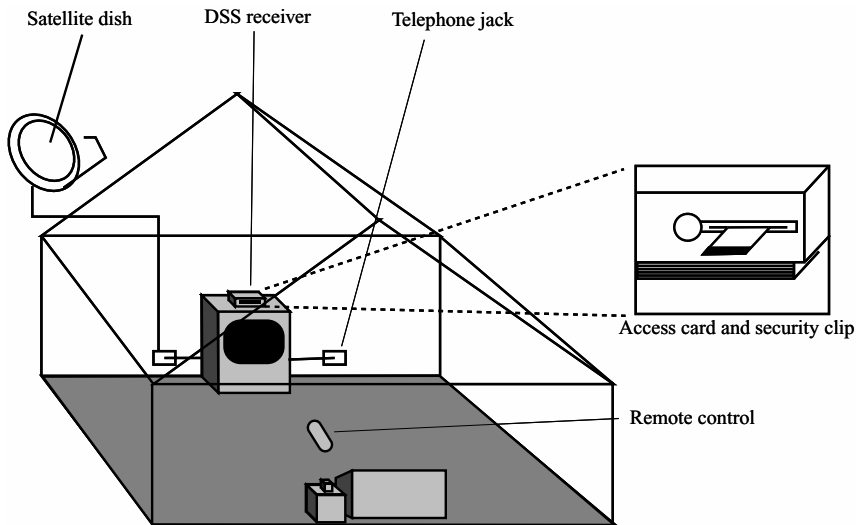

FIGURE 6-21 A typical DBS home installation setup plan. (Courtesy of Thomson Multimedia.)
- *DSS system home view* Figure 6-21 illustrates the parts of the system required inside your home and satellite dish outside the house.
- *Security card clip* The clip is installed (Fig. 6-21). This clip fits over the Access Card and helps prevent the card from being inadvertently removed. To remove the clip, squeeze the top and bottom together and slide the clip off of the Access Card.